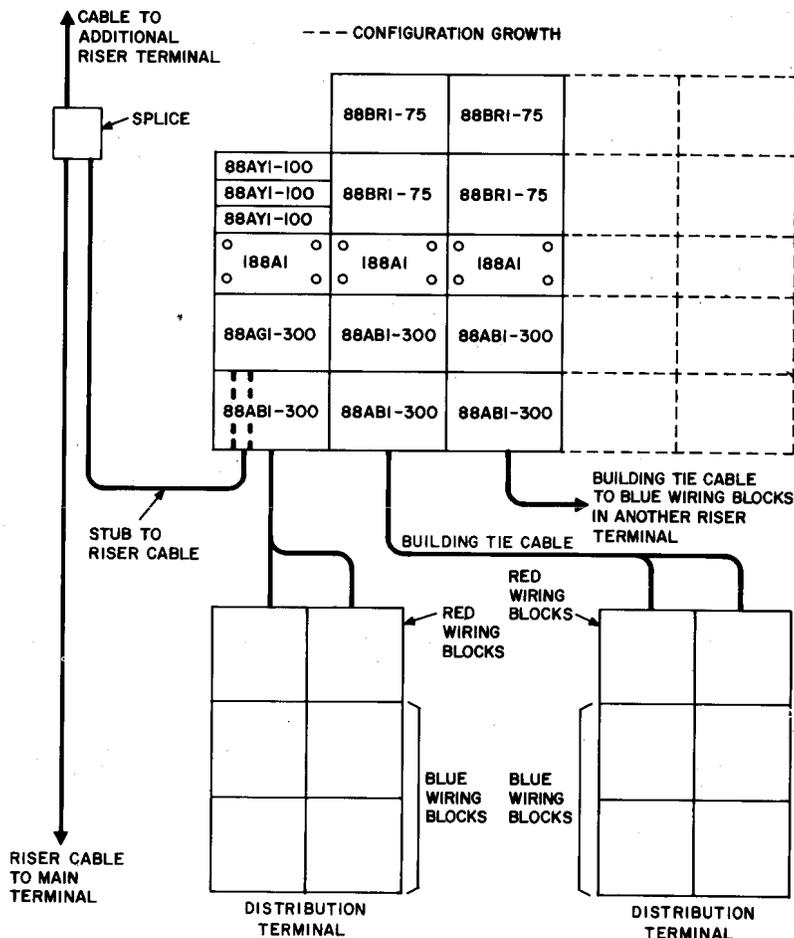

Fig. 7—Block Diagram Showing Riser Terminal Serving Two Distribution Terminals
4.04 Basic line service from a riser terminal to a distribution terminal requires a building tie cable between the two terminals (Fig. 7). This cable will terminate on the blue wiring blocks in the riser terminal and on the red wiring blocks in the distribution terminal.
5.01 Building tie cables from riser terminals which carry basic line service to distribution terminals *shall* be terminated on the *red* wiring blocks which are installed in the *distribution terminal* as shown in Fig. 7.